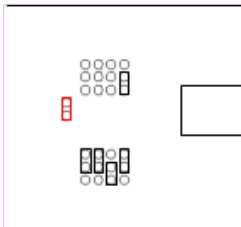

Figure 2: Reset QCA7000
- On the PLC Stamp EVB short QCA7000 RESET pin to GND (JP5, see Figure 2) for one second in order to get a defined state